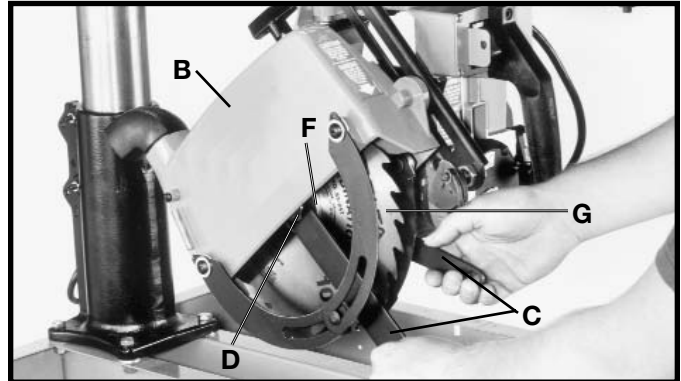

Fig. 12
3. With wrenches (C) Fig. 12, loosen arbor nut (D) as much as possible. **NOTE: Arbor nut has left hand threads.**
4. Lift cam (E) Fig. 13, which holds the blade guard (B) Fig. 12, in position and move the blade guard (B), outer blade flange (F), and blade (G) outward.